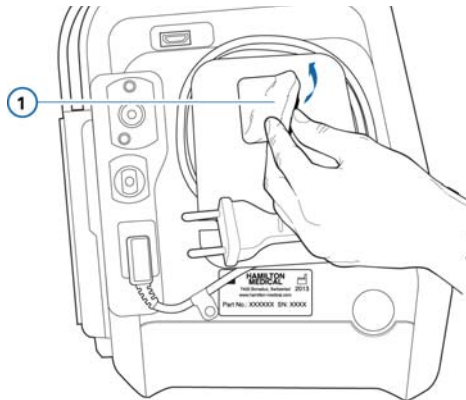

Figure 10-1. Removing the fan filter (1)
6. Install a new fan filter (Figure 10-1) or wash the existing filter in a mild soap solution, rinse, dry and reinstall.